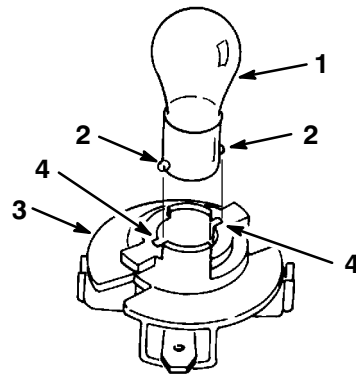

**Figure 18**
3. Rotate the bulb holder 1/4 turn counterclockwise and remove it from the reflector (Fig. 18).
2. The bulb holder has two tabs (Fig. 18). Align the tabs with the slots in the reflector, insert the bulb holder into the reflector and rotate it 1/4 turn clockwise until it stops.